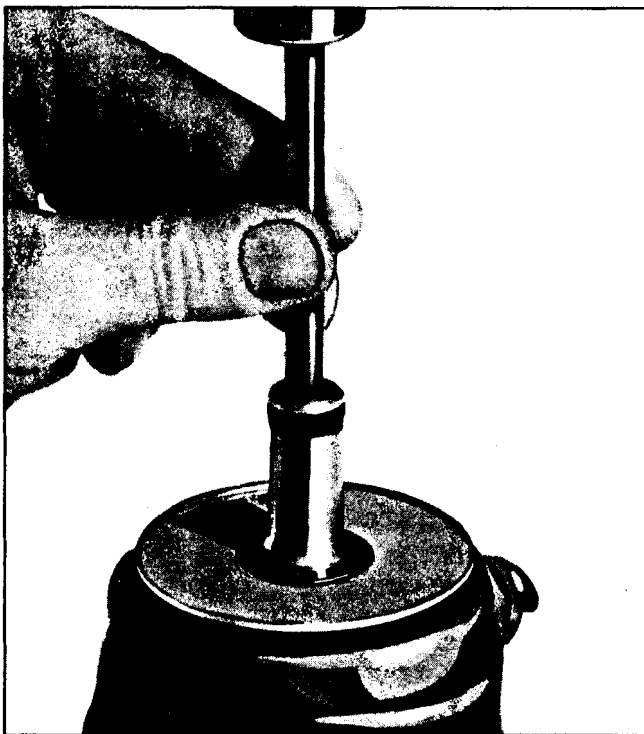

Fig. 4-18 Installing Check Valve
2. Insert new expansion plug retainer and tap in until it bottoms (Fig. 4-18).